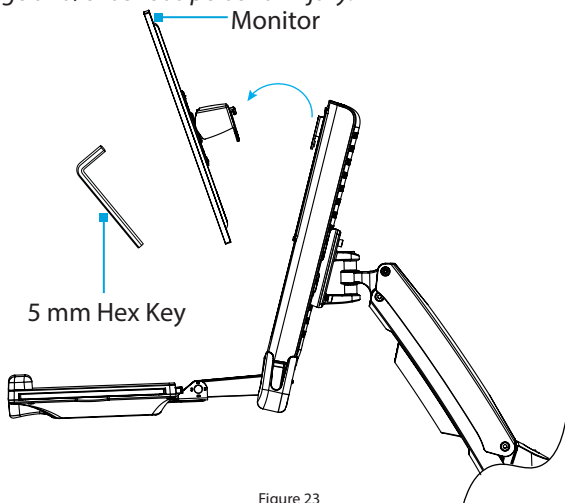

Figure 23
3. Lift the **VESA Monitor Mount** off the **Plate**, located on the **Column**. (Figure 23)